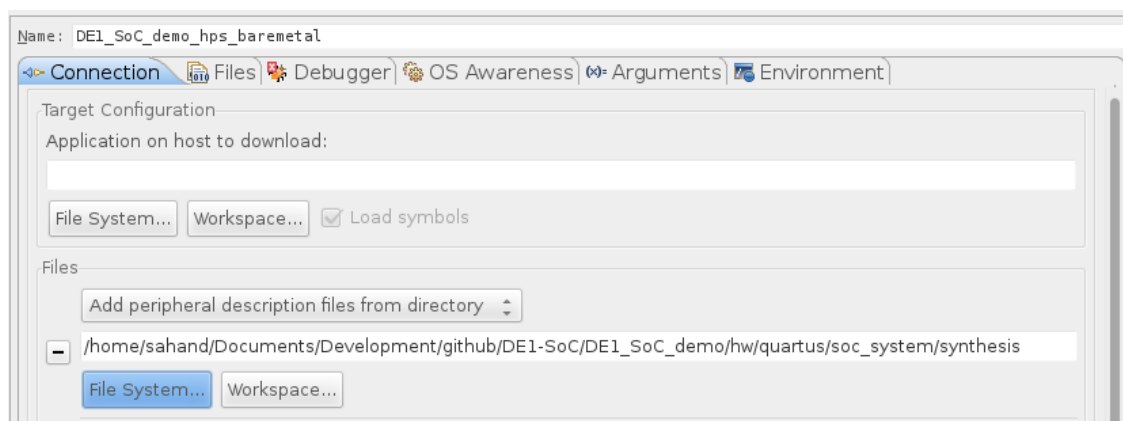

Figure 8-30. Debug Configuration "Files" Tab
- b. In 8.3.3.2, we configured our HPS to use some FPGA peripherals. We can instruct the debugger about this so it can show more detailed information when debugging. To do this, set the combobox to “Add peripheral description files from directory” and set it to the “DE1_SoC_demo/hw/quartus/soc_system/synthesis” directory, as shown in Figure 8-30. This directory contains a file called “soc_system_hps_0_hps.svd” which has information on all of the HPS' peripherals which are in the FPGA fabric.